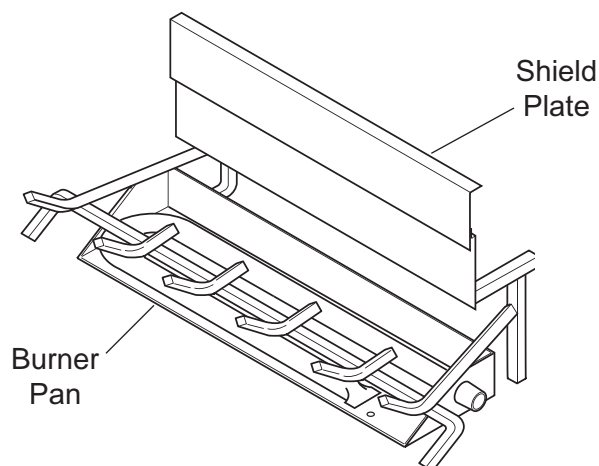

Figure 26 - Sliding Shield Plate Down Back of Burner Pan
1. Slide shield plate down back of burner pan. *See Figure 26.*